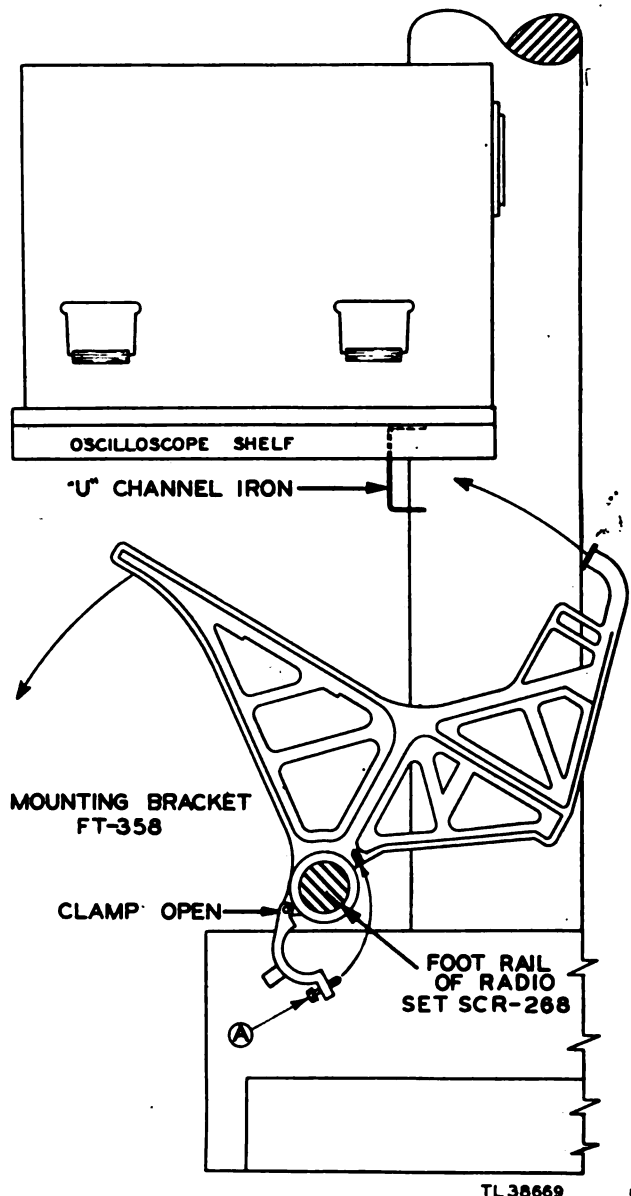

Figure 21. View showing mounting brackets being assembled on footrail.
a. Open the large clamp (fig. 21), by loosening the two captive screws, A, which hold this clamp together.
b. Place the mounting brackets on the footrest of Radio Set SCR-268 as shown in figures 21 and 22.